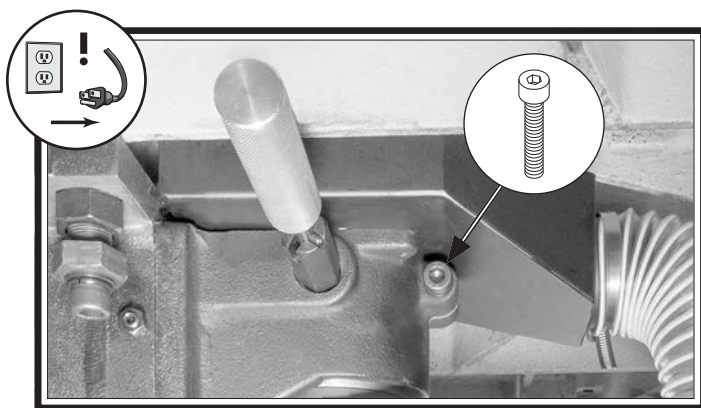

Figure 82. Location of spindle housing cap screw.
3. Place pad or towel beneath spindle housing, then loosen cap screw on spindle housing (see **Figure 82**).